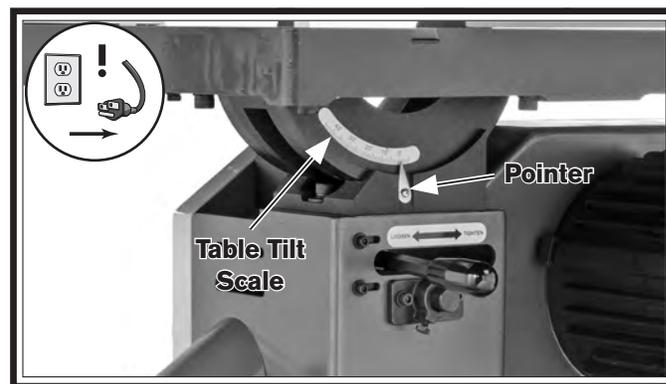

Figure 109. Location of table tilt scale and pointer.
The table tilt scale pointer (see **Figure 109**) was calibrated at the factory. However, after prolonged use the pointer may shift, requiring adjustment.
- Loosen Phillips head screw that secures table tilt pointer (see **Figure 109** on **Page 66**), adjust pointer to "0" on scale, then retighten screw.